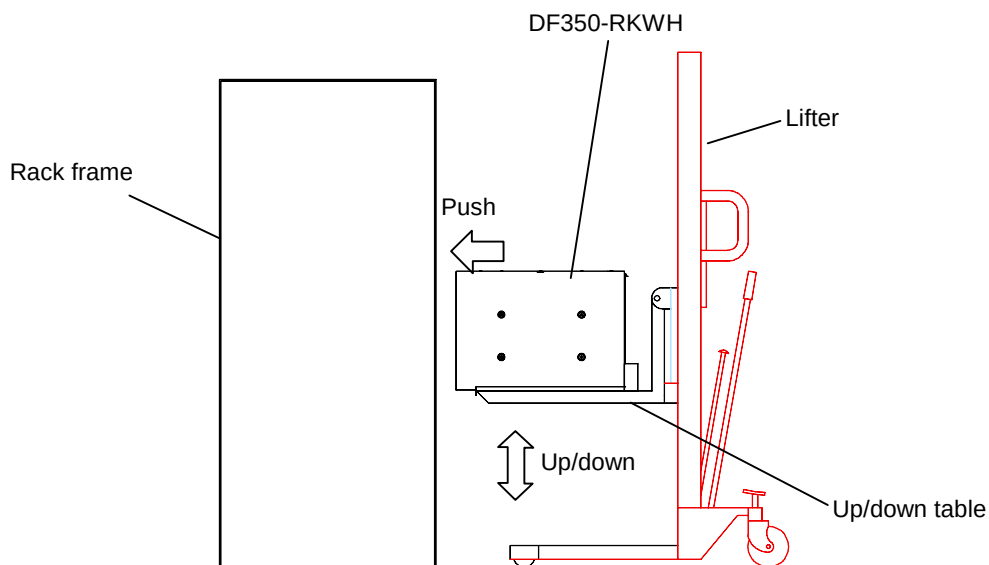

Figure 2.4.5 Install the DF350-RKWH into the Rack Frame
2.4.5 Install the subsystem into the rack (See Figure 2.4.5.)